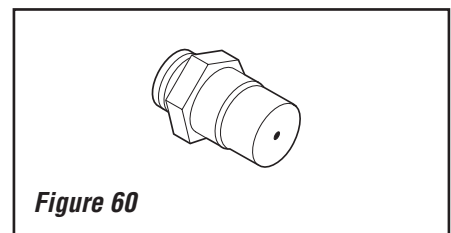

Figure 60
A. Remove the orifice from the manifold and replace it with the one provided in the kit. See **Table 9** for orifice sizes for natural and propane models. **Figure 60** illustrates the orifice. Always check and verify orifice size.